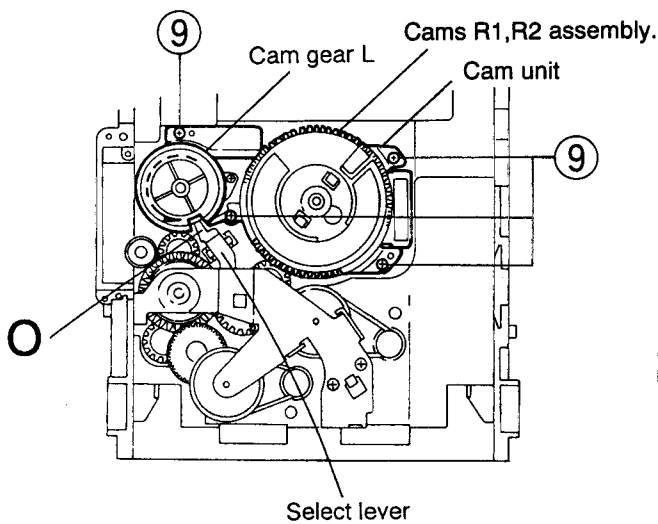

Fig.5-52
4. While turning the cam gear L, align the pawl "O" position of the select lever to the notch position (Fig. 5-52) on the cam gear L.
5. Remove the four screws ⑨ retaining the cam unit (cam gear L and cams R1/R2 assembly) (See Fig. 5-52).